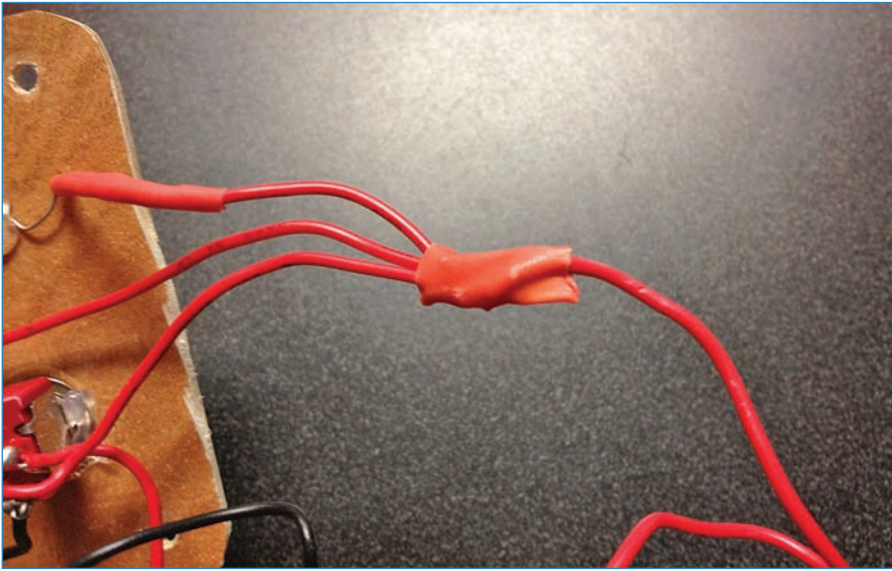

FIGURE 10.20 Now combine the positive leads.
11. Solder the positive wires of the potentiometers, light sensor, and switch together, combining the four wires into one as you did in step 8. Cover the join with heat-shrink tubing. It should look like Figure 10.20! This gets plugged into the 5V pin of the Arduino.